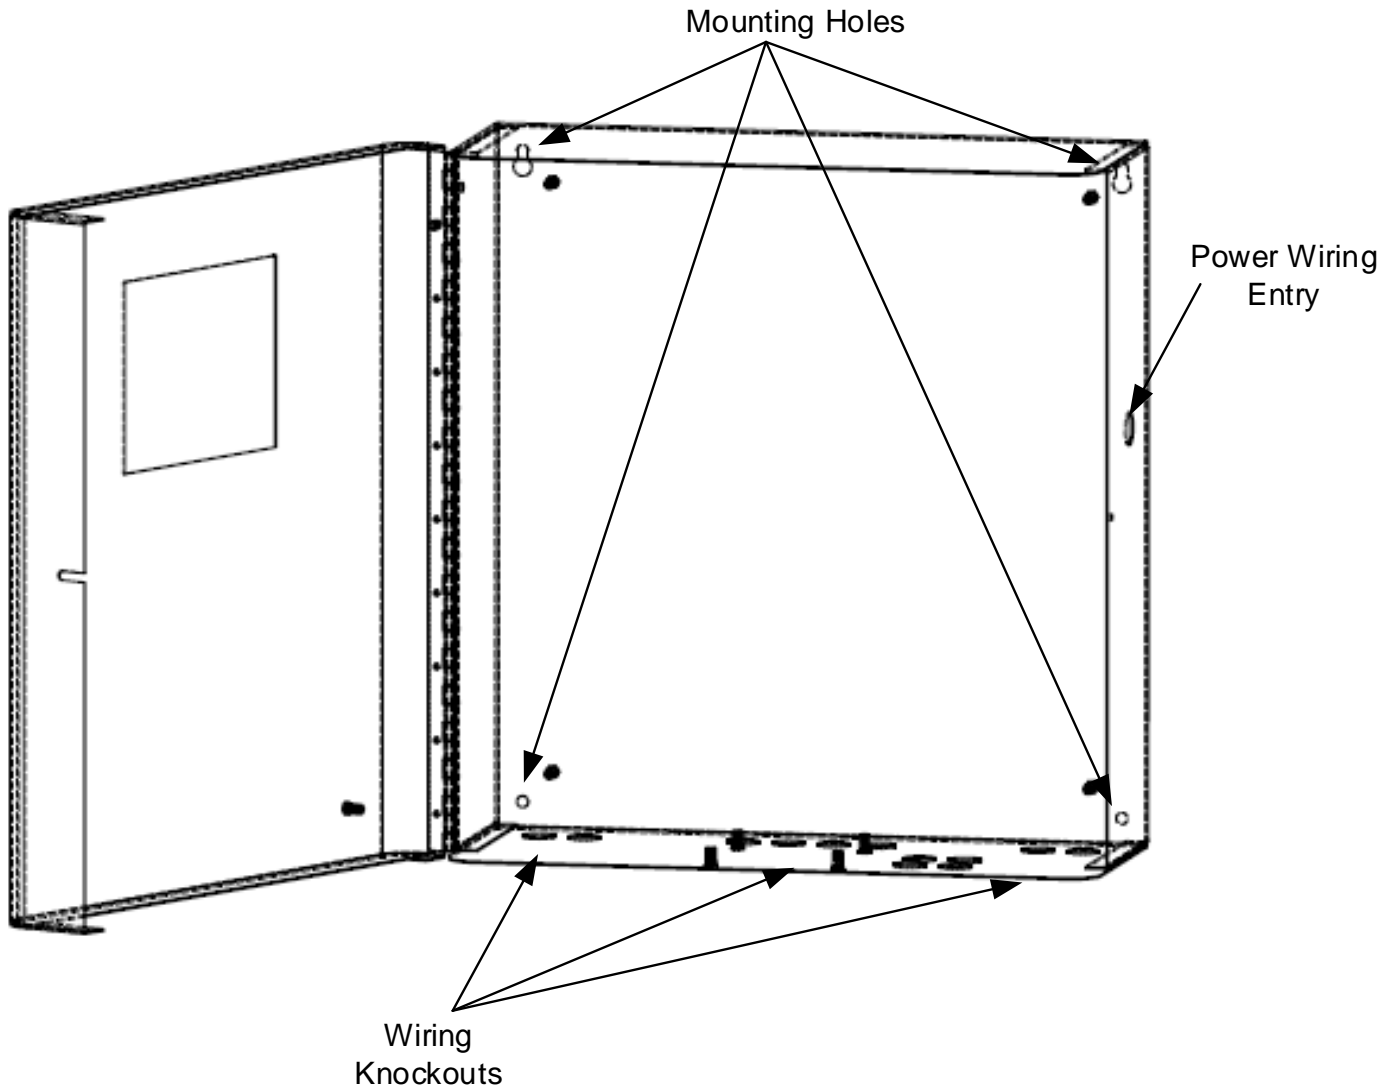

Figure 11: Enclosure Mounting
- e. Mount in the vertical position. Door hinges on left side with touch screen facing out. See Figure 11 for physical size and details on mounting holes.